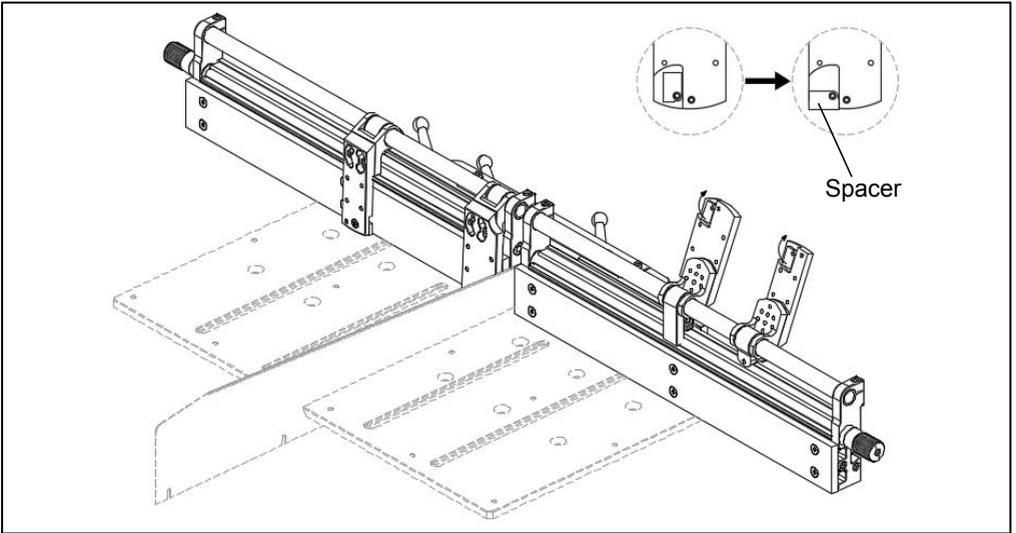

Fig. 7
- In order to cut thin workpieces narrower than 15/64" (6mm), you will need to utilize the spacer to provide additional support. As shown in Fig.7, loosening the set screws on the red spacer, rotate the spacer until the bottom side of the stop against the workpiece is square. Tighten the set screws to secure the spacer in place.